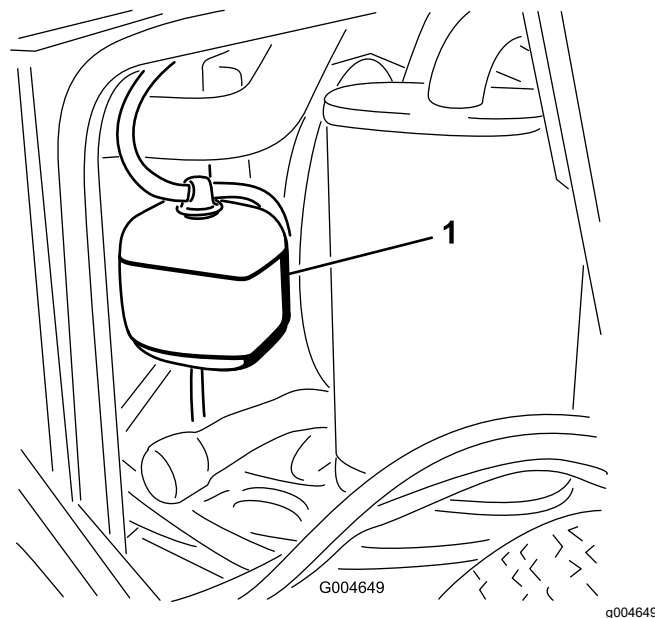

Figure 44
1. Check the level of the coolant in the expansion tank (Figure 44).